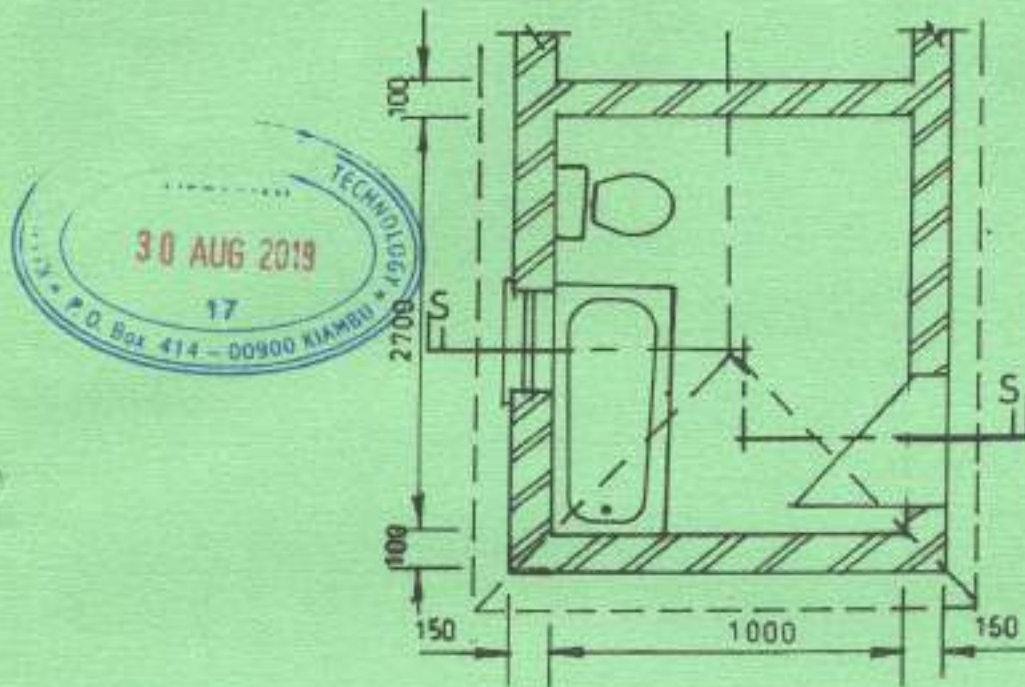

Fig. 9
8. Figure 9 is a floor plan of part of an ablution block.